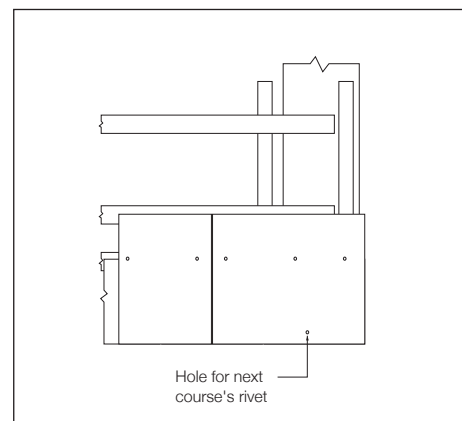

Fig. 3 – 2nd under eaves course
- 3 Cut and fix second under-eaves course to the lower batten with slate-and-a-half widths at the verge (Fig. 3). Prior to fixing slate-and-a-half slate, drill hole half a slate width in from verge and 25mm up, to allow for copper disc rivet to fix first full slate course.